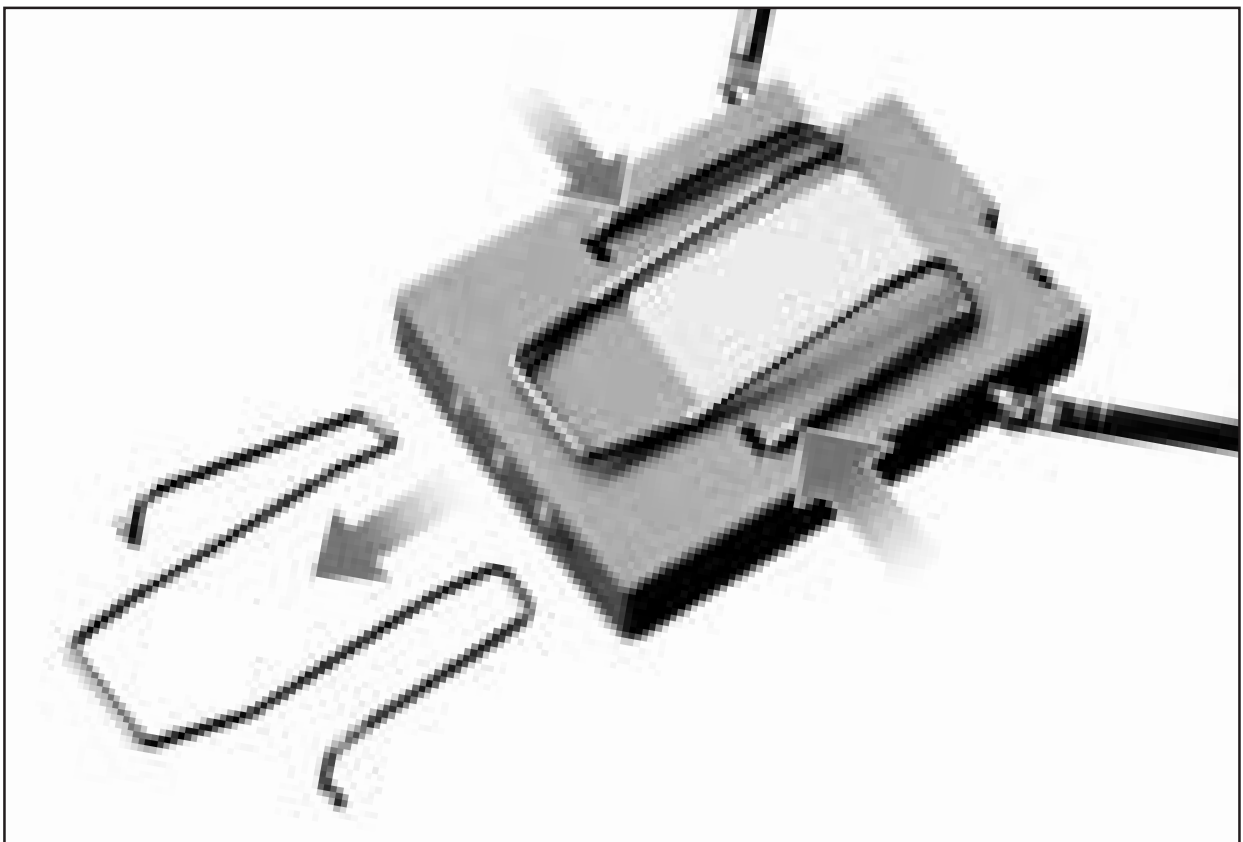

Fig. 5: Removing the belt clip.
1. Press the ends of the belt clip inward as shown in fig. 5 and remove the belt clip.